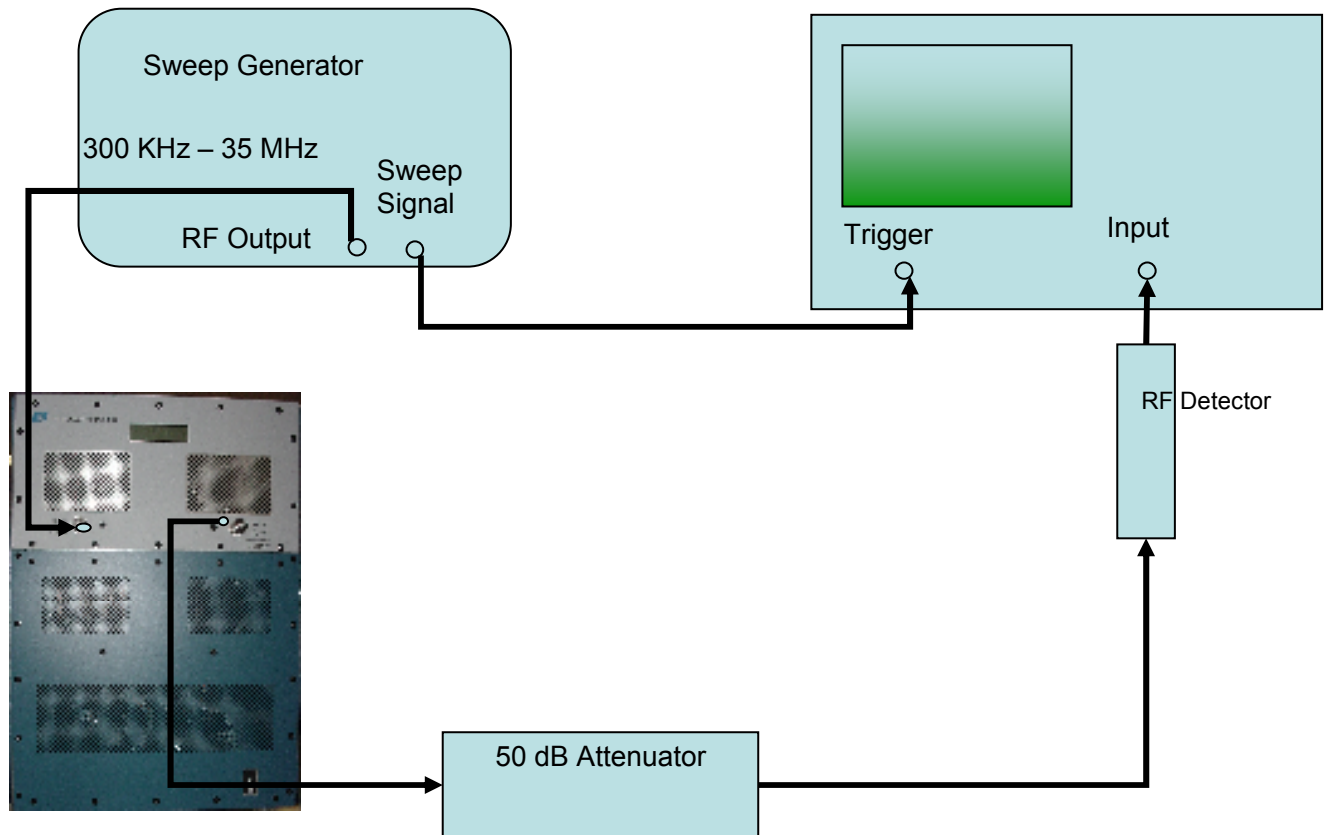

Figure 4-1. Gain Measurement
2. Connect the equipment as shown in Figure 4-1, then proceed as follows:
- g) Reconnect the A500 into the test set-up of Figure 4-1.